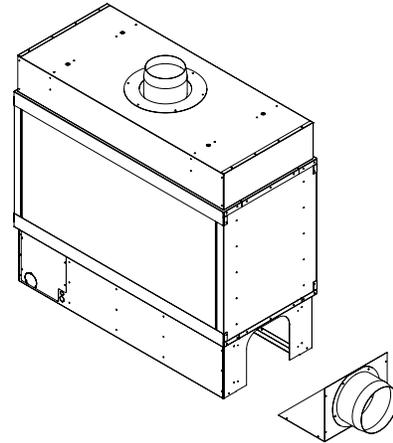

Figure 8V.2
Refer to Figure 8V.1
Refer to Figure 8V.2
Step 3: Turn plate so collar is facing down, slide plate into slots on each side. Refer to Figure 8V.3A and Figure 8V.3B
Refer to Figure 8V.4